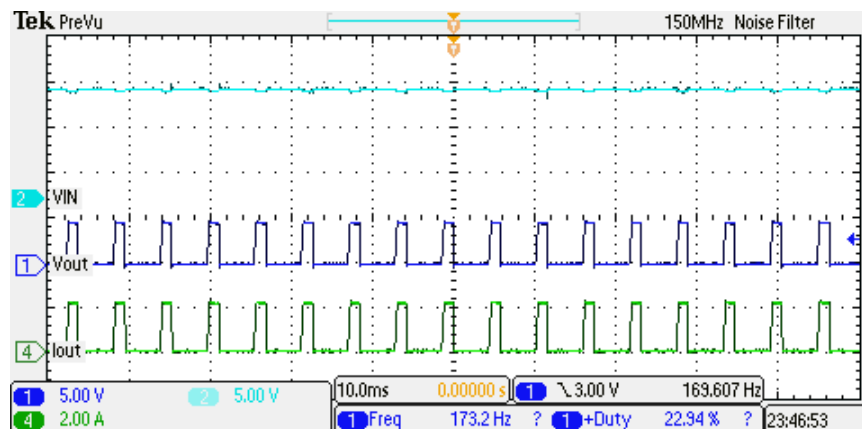

Figure 4. J3 = "ILIM-LO" Current Limit (2.1 A) Test Auto-Retry (CH2)
- Set the output load at $1.0 \pm 0.5 \Omega$ on CH2 and then enable the load. Turn on the VIN2 power supply, verify that input/output current is limited as per the setting in Table 9 and the device is in auto-retry mode, as shown in Figure 4. The level of the current pulse should match with the load current limit (based on the respective jumper setting) as per Table 9.